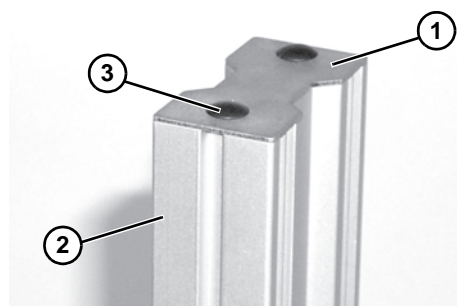

Figure 11
2. Attach tube end cover (**Figure 11, item 1**) on stand leg (**Figure 11, item 2**) with two plastic tree rivets (**Figure 11, item 3**).